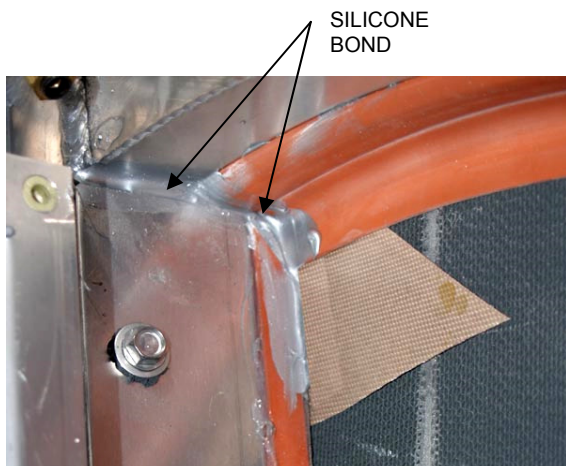

Figure 13 - Face/Peripheral Seal Union
9. After all the face seal screws are removed, locate the point where the vertical and horizontal face seals meet the peripheral seal (see Figure 13). This union has been joined together with silicone sealant. Using a razor utility knife, carefully break the silicone sealant bond only. Avoid cutting through the peripheral seal or the rotor surface.
8. Reseal the union between the face seals and the peripheral seal with silicone. Also, reseal the seam where the horizontal and vertical face seals meet. Do not get silicone on the rotor. (Slip a piece of wax paper between the rotor and the area to be sealed—shown in Figure 13—to prevent silicone from sticking to the rotor surface.)